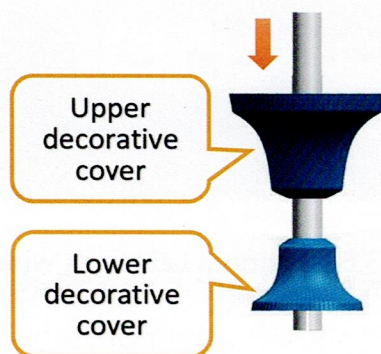

Figure. 3.2
② Unscrew two M4\*10 hexagonal screws near the upper end of the extension tube, and install the lower decorative cover from the upper end to the lower end, and then install the upper decorative cover (see Figure 3.2)